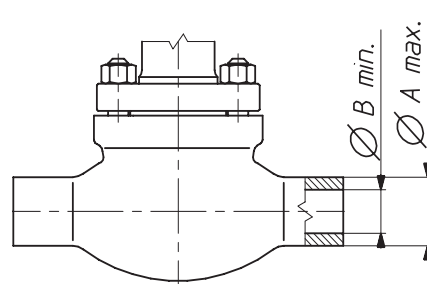
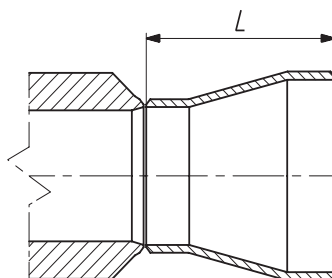

Fig. 6. Dimension of butt welding ends executed as cast
Fig. 7. Reduction stub
•) - execution with reduction stubs as per Fig. 7.
It is allowed to execute connections for other dimensions of pipes. Should pipe dimensions fall within the range $\varnothing B_{min} / \varnothing A_{max}$. (Fig. 6, Table 20), connection can be executed as cast. Otherwise reduction stub is to be welded to body end, which shall result in extension of housing by L or 2L size (Fig.7, Tabel 20). Other connection dimensions are allowed upon consulting with manufacturer.